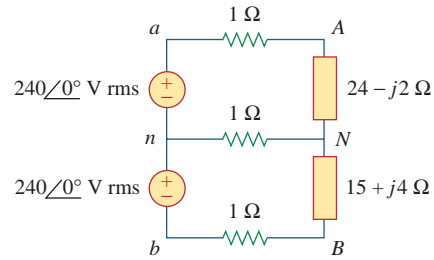

Figure 12.77
- 12.86** For the single-phase three-wire system in Fig. 12.77, find currents \mathbf{I}_{aA} , \mathbf{I}_{bB} , and \mathbf{I}_{nN} .